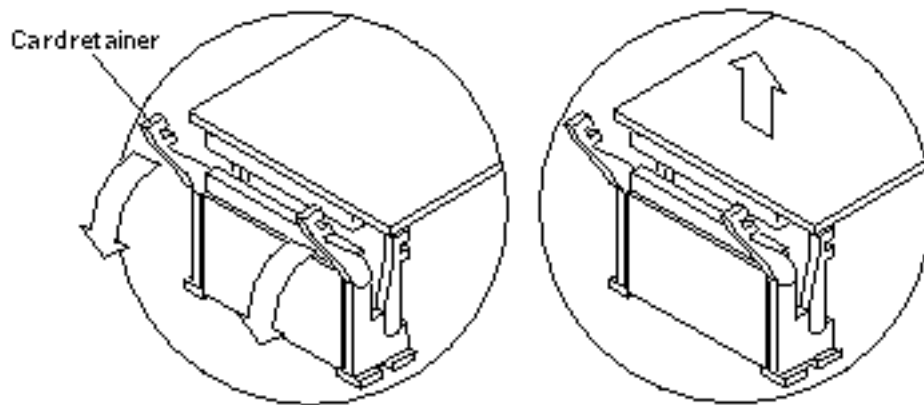

Figure 2-19 Removing an SBus Card from Slot 0 or 1
- If the SBus card is located in SBus slot 0 or 1, push the card retainers back from the edge of the SBus card. See Figure 2-19.